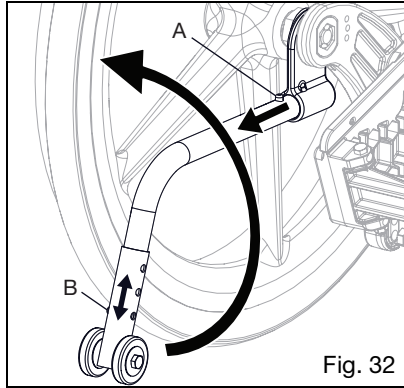

Fig. 32
- a. Depress buttons (Fig. 32:A) on anti-tips.
- a. Depress lower button (Fig. 32:B) on anti-tip.